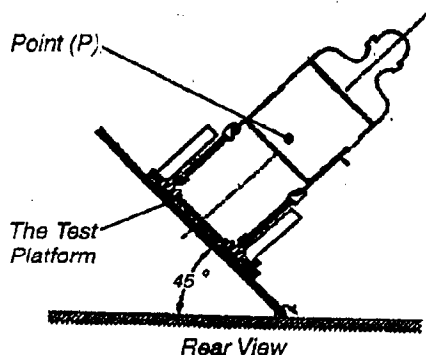

FIGURE 4 - REAR VIEW OF WHEELCHAIR AND HUMAN SURROGATE SECURED ON TEST PLATFORM AND TILTED TO 45 DEGREES
The test for Lateral Stability Displacement for Point (P) is shown in **FIGURE 4**. The average test result for Point (P) is shown in **FIGURE 5**.